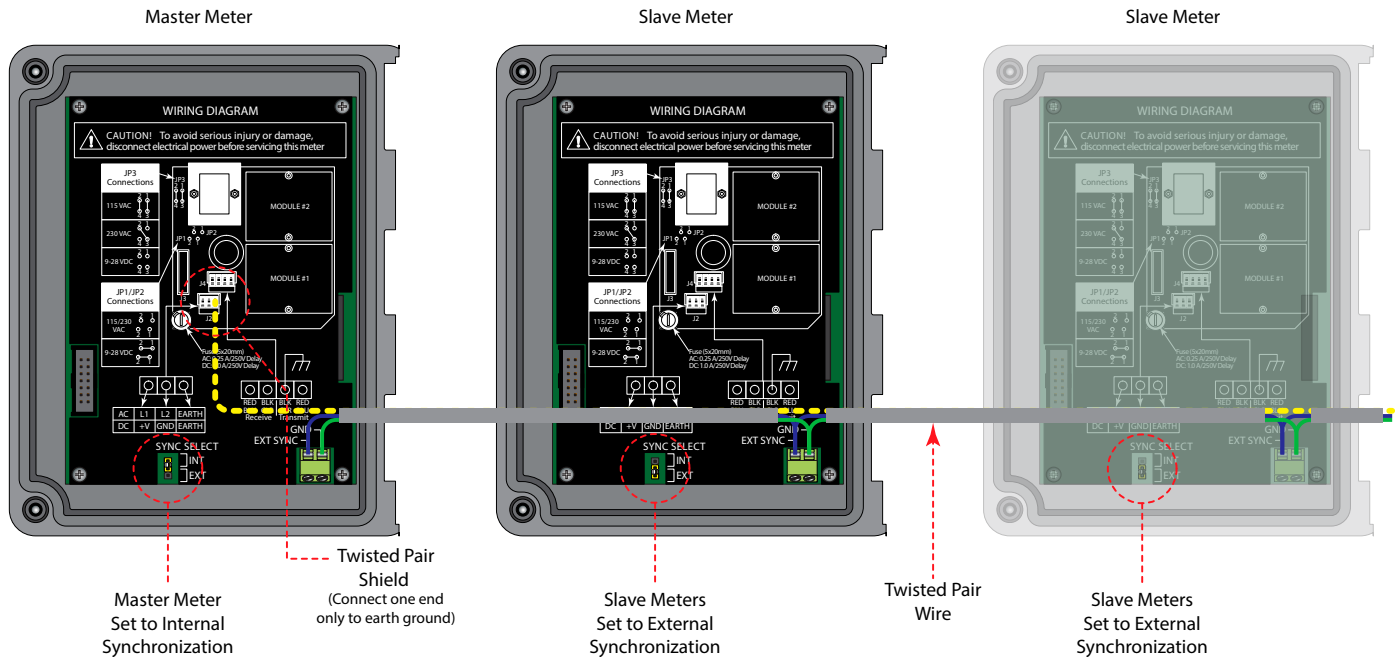

Figure 19: DFX flow meter synchronization connections
4. Configure the SYNC SELECT jumpers on the DFX flow meters. One DFX flow meter should be configured for INT and the remaining units configured for EXT (see *Figure 19*).